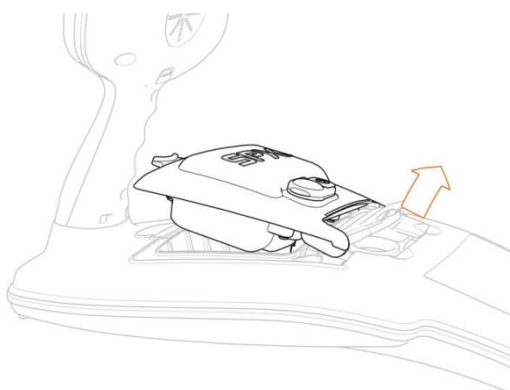

Figure 3.7 Rotating the battery pack
- 5 Rotate the battery pack away and up from the latch (fig3.7)